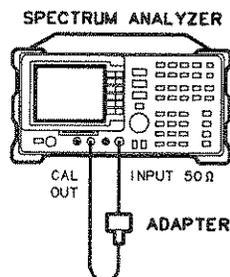

Figure 3-11. Resolution Bandwidth Switching Uncertainty Test Setup
1. Connect the CAL OUT to the spectrum analyzer input using the BNC cable and adapter, as shown in Figure 3-11. *Option 001:* Use the 75Ω cable and omit the adapter.